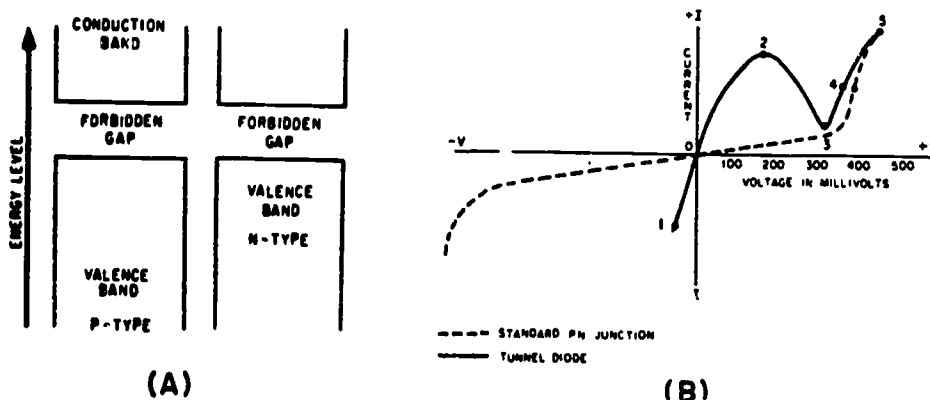

Fig 3-9. Tunnel diode energy diagram with 600 millivolts bias.
Figure 3-9, view (A), is the energy diagram of a tunnel diode in which the forward bias has been increased even further. The energy bands no longer overlap and the diode operates in the same manner as a normal PN junction, as shown by the portion of the curve in view (B) from point 3 to point 4.